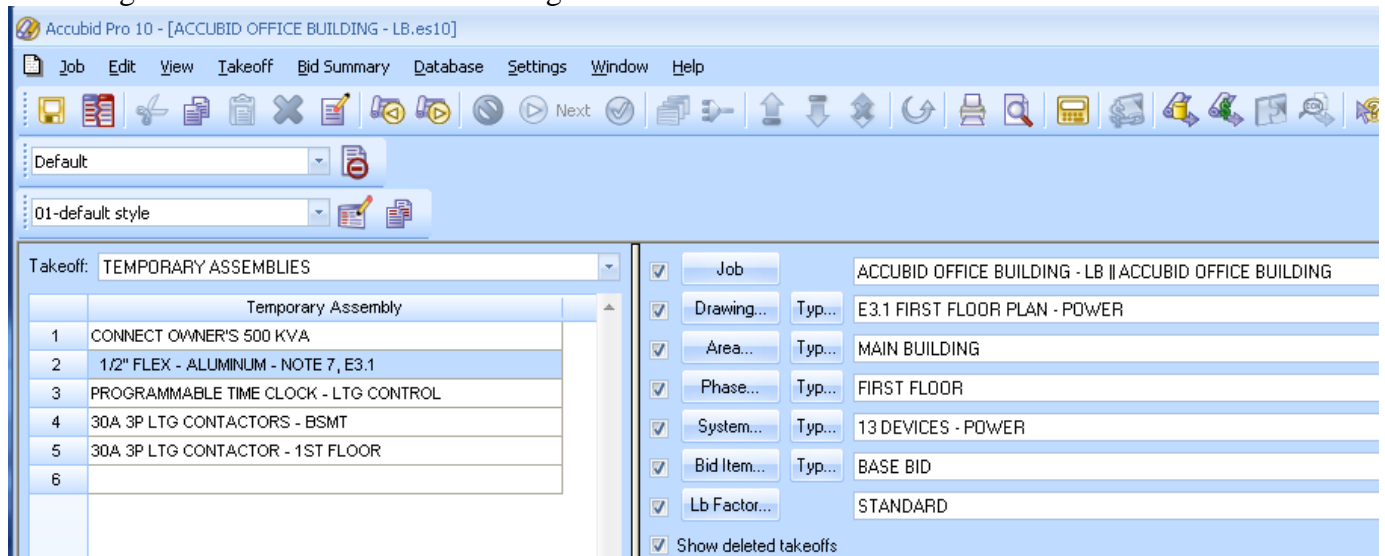

Figure 2
9. Change the Breakdown as shown in Figure 2.